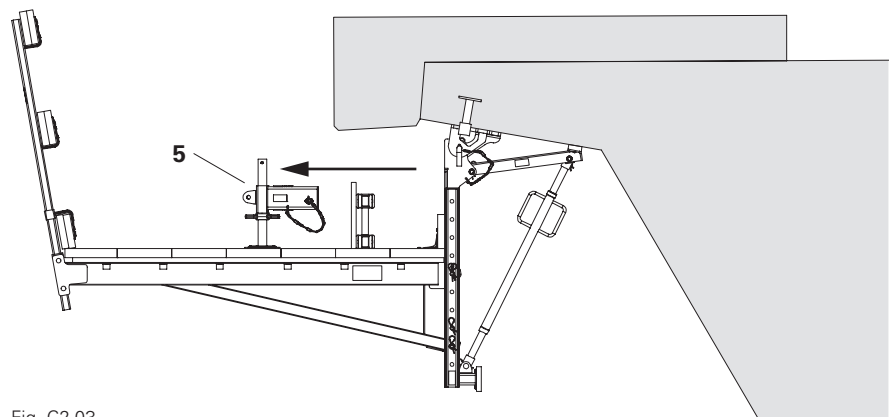

Fig. C2.03
1. Remove Formwork Post VGK 70 (7) and Kicker AV 82 (2a).
3. Remove Formwork Girders VGK 100 (6).
4. Remove Formwork Fixing VGK 2 (5) and internal formwork. (Fig. C2.03)